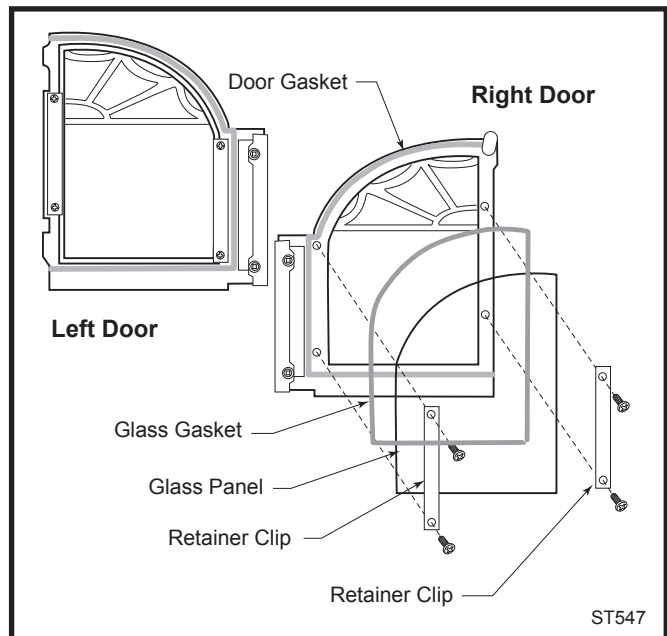

Fig. 38 An exploded view of the glass assembly.
2. Secure the glass on both doors with the retainer clips. Tighten all screws. (Fig. 38)